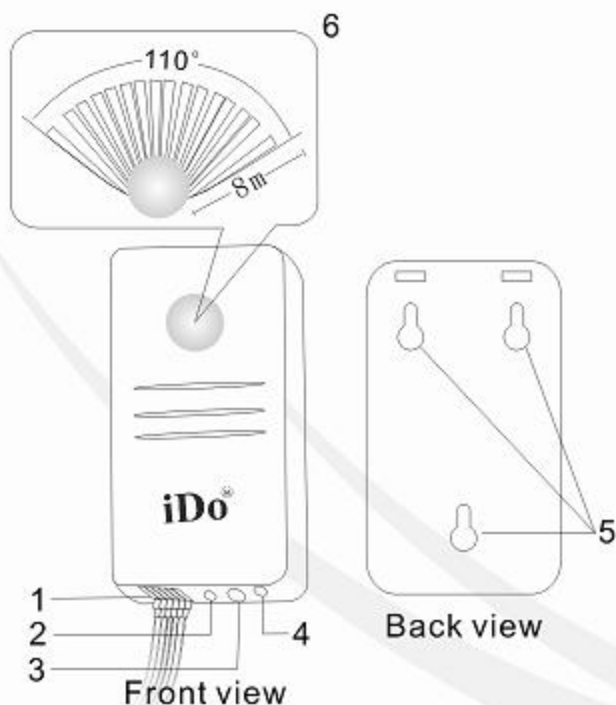
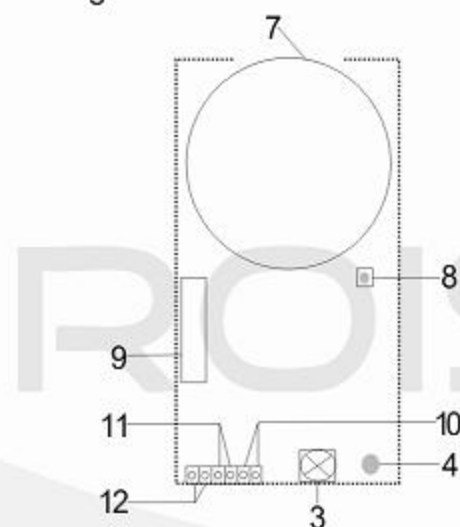

Figure 1. Monitoring area, the structure diagram
Figure 2. Circuit board diagram
1. Connector and cables. From the left to the right: the first couple (marked 12) is used for positive power input (+12 VDC), the red cable is used for negative power input; The second couple (marked 11) is used for alarm signal output and the third (marked 10) is for tamper output. (Fig.1 and Fig.2)